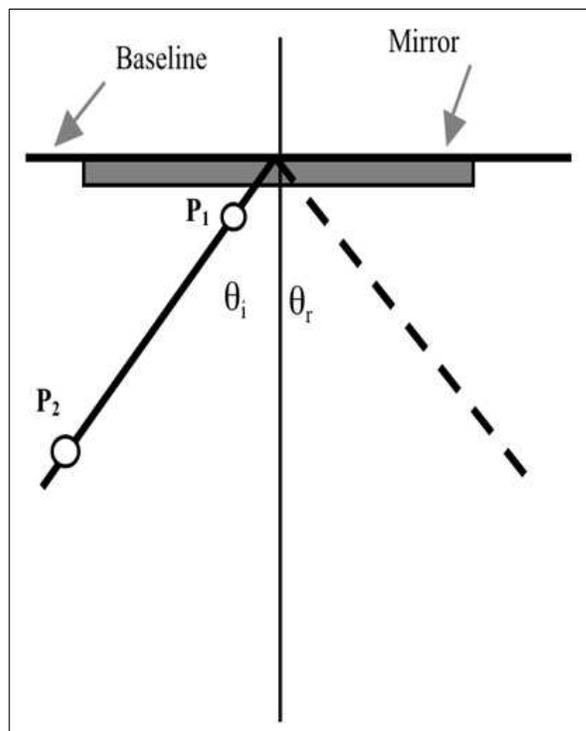

Figure 21.8: Reflection
22. Refer to Fig. 21.8. Draw a baseline across a sheet of paper, near the top. Draw a line normal to the baseline down the center of the paper. Draw a line to the left of the normal (incident line) with angle θ_i between 25° and 35° .